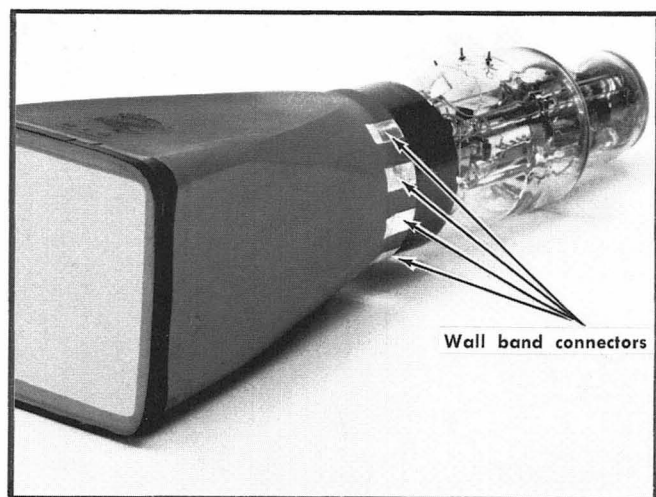

Fig. 4-11. Location of CRT wall band connectors.
**Replacing the Cathode-Ray Tube.** Slide the CRT into the shield with the wall band connectors (Fig. 4-11) to the right.